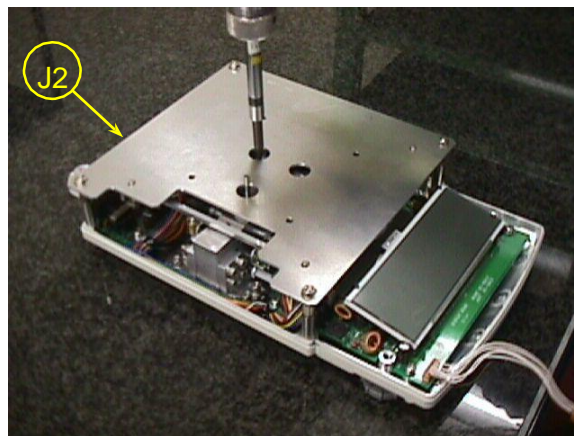

Fig.6
- Fix the Assy,Pan support (4) loosely to the Unit assy (1) the two M4x10 hexagonal socket-head bolts (26) and Washer conical spring M4 (27)
- Set the pins of the Pan support positioning jig (J2) into the holes at the 4 corners of the Assy,Base (3). Align the pins of the Assy,Pan support (4) with the holes of the positioning jig to set its position and fix using the two M4x10 hexagonal socket-head bolts (26) and Washer conical spring M4 (27) (Fig.6).
- Pull the Lever fixing pin (J1) out of the lever fixing hole of the Unit assy (1).